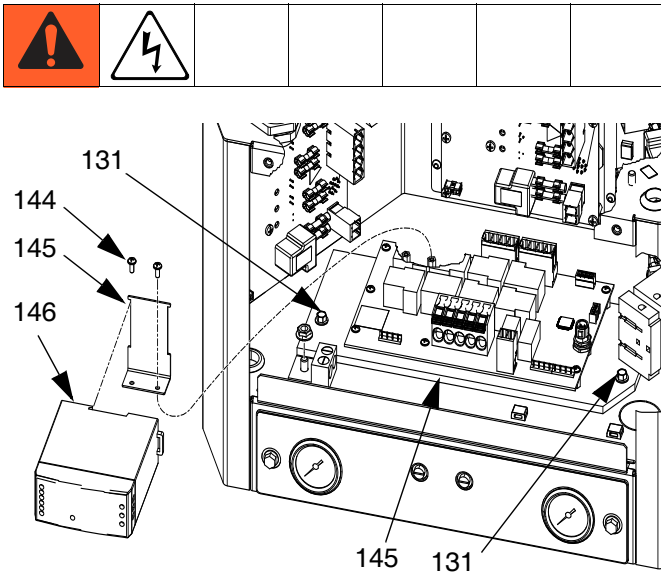

FIG. 49: AWB and Power Supply
3. Remove 2 screws (131) securing AWB (143) to electrical enclosure (1) then carefully remove AWB.
4. Remove power supply (146) from power supply bracket (145) by releasing mounting tab on the side of the power supply. See FIG. 49.
5. Remove two screws (144) securing power supply bracket (145) to AWB (143) and remove power supply bracket. See FIG. 49.
1. Use two screws (144) to secure power supply bracket (145) to new AWB (143). See FIG. 49.
2. Mount power supply (146) to power supply bracket (145). See FIG. 49.
3. Connect connector (labeled AWB-J1) on power supply harness (147) to J1 on AWB (143). See **Electrical Schematics**, page 82.
4. Use two screws (131) to install AWB (143) to electrical enclosure (1). See FIG. 49.
5. Reconnect cables to AWB (143).
2. Remove electrical enclosure front access door (10).
3. Remove power supply (146) from power supply bracket (145) by releasing mounting tab on the side of the power supply. See FIG. 49.
4. Disconnect screw terminal connections between power supply (146) and power supply harness (147) according to the following table. See FIG. 49.
1. Make connections between power supply harness (147) and new power supply (146) according to the following table:
2. Reattach power supply (146) to power supply bracket (145). See FIG. 49.
3. Install electrical enclosure front access door (10).